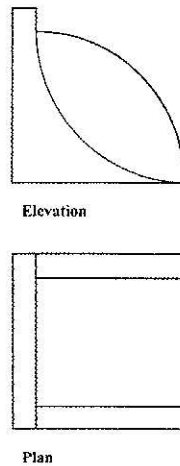

Figure 3
- 7 **Figure 3** shows two views of a block drawn in first angle projection.